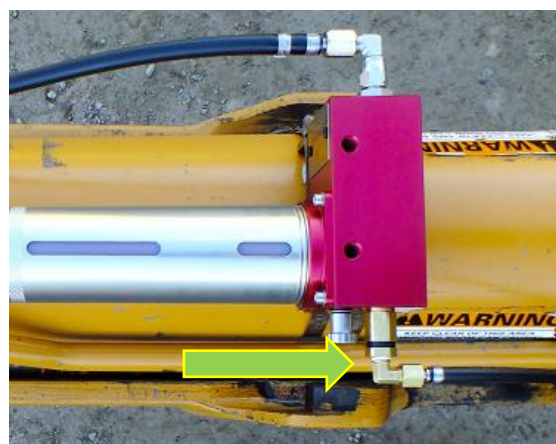

Figure 22 Connect Mainline to Element
14. Connect the pump at the grease element to the progressive distribution mainline as shown in **Figure 22**.